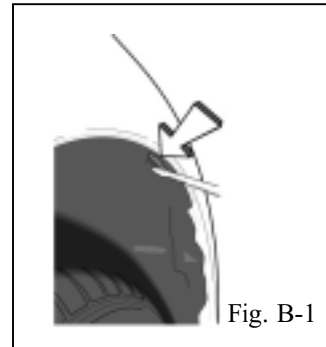

Fig. B-1
- ➡ 1. Remove the plastic fastener already installed in vehicle wheel well area (Fig. B-1.)